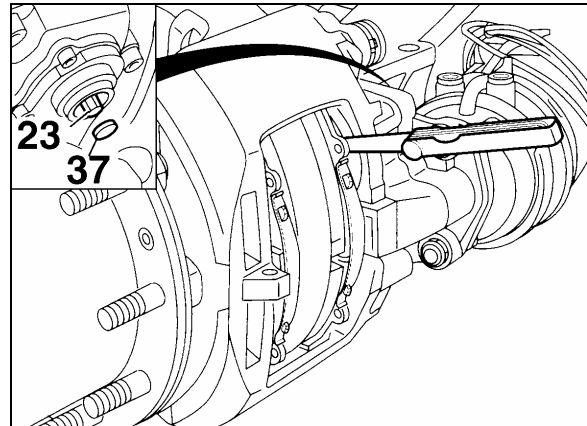

FIGURE 37: RUNNING CLEARANCE
- Insert a feeler gauge 0.028 inch (0.7 mm thickness) between tappet and pad backplate (Fig. 37). Turn adjuster pinion clockwise until 0.028 inch (0.7 mm) clearance is achieved. Replace cap (37) (Prevost # 641313).
- To ensure a constant running clearance between the rotor and pads, the brake is equipped with an automatic adjuster unit. When the pads and rotor wear, the running clearance between the pads and rotor increases. The adjuster (23, Fig. 37) and turning device turn the threaded tubes by the amount necessary to compensate the wear.